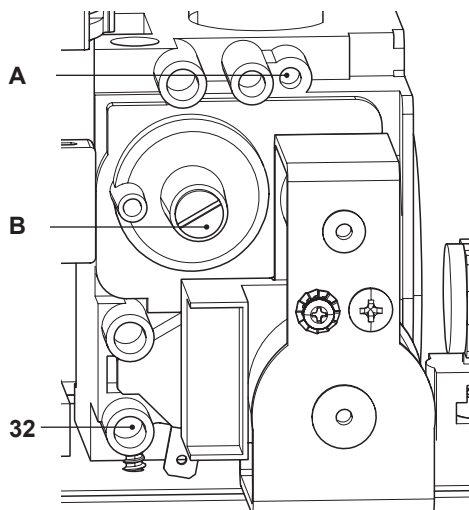

Fig. 7.9
- When the boiler is switched off (out of order), check the supply pressure by using the 32 point in Fig. 7.9 and compare the value read with that reported on the Gas supply pressure table in the "Technical Data" section (pag. 28 Inovia 25S ERP).
- Close well the pressure point 32 in Fig. 7.9.